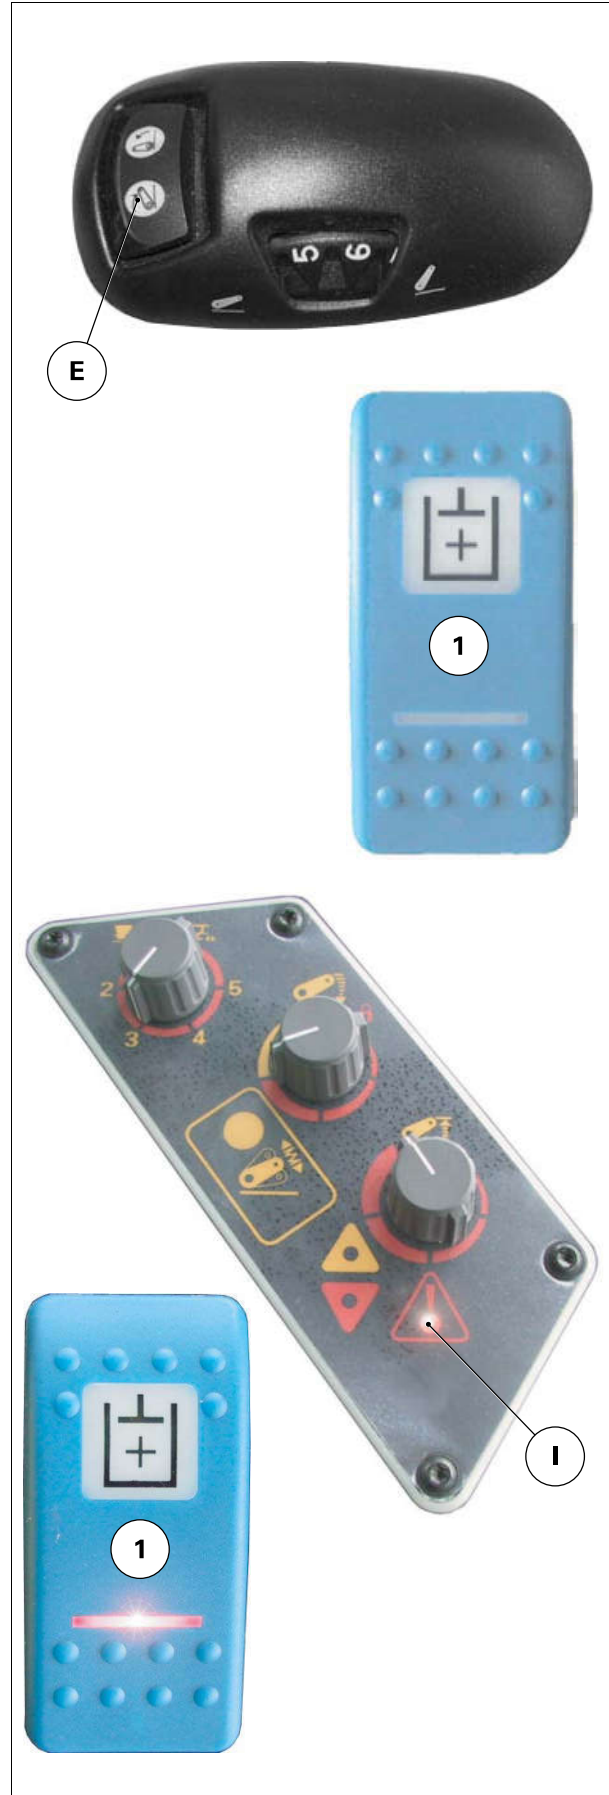

Fig. 6.
Coupling is carried out using a button located in the cab on the right-hand console (1) .fig. 6
If the oil temperature has not reached its normal operating temperature, pump coupling may or may not be permitted according to engine speed and oil temperature. If coupling is selected via the switch (1) fig. 6 outside of the permitted conditions, an audible signal can be heard inside the cab.
1. Press the pump coupling switch (1) .*fig. 6* The corresponding indicator light goes out. The pumps are no longer coupled.
2. To use the linkage, unlock it using the Lift/Lower switch (E) .*fig. 6* The indicator light (I) goes out.